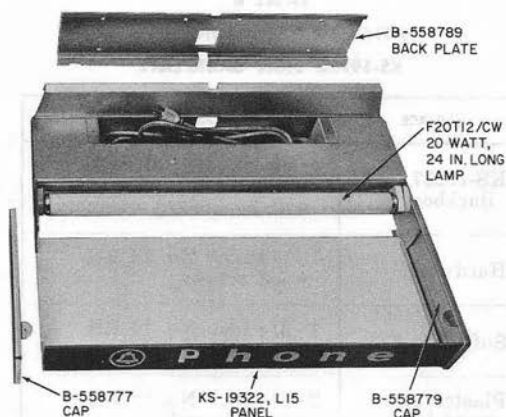

Fig. 13—Assembly of KS-19322 Sign
3.06 The backplate (Fig. 13) must be securely fastened to the mounting surface.
(a) Remove the power cord through the hole in the rear wall of the cord storage compartment (Fig. 13).
(b) Place end caps on sign panel (Fig. 13).